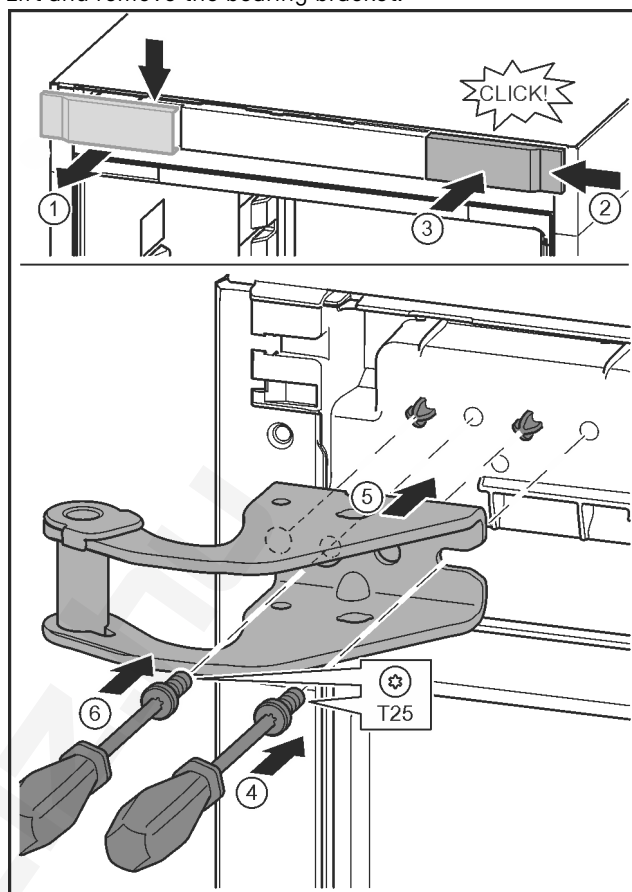

Fig. 26
- Release the cover and remove from the side. Fig. 26 (1)
- Rotate the cover 180° and clip onto the other side from the right. Fig. 26 (2)
- Click the cover into place. Fig. 26 (3)
- Position the screw with a T25 screwdriver. Fig. 26 (4)
- Position the upper bearing bracket. Fig. 26 (5)
- Tighten the screw. Fig. 26 (4)
- Insert the screw with a T25 screwdriver and tighten. Fig. 26 (6)